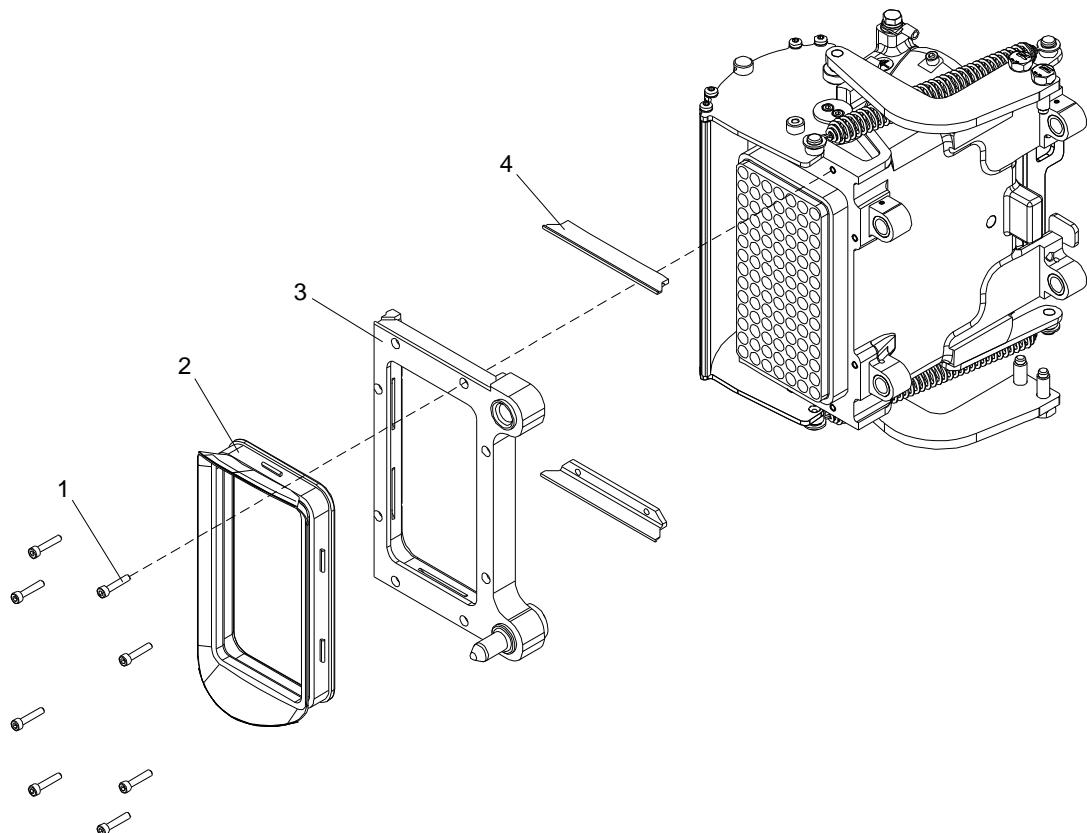

Figure 7-16: Replacement of Frame Including Guiding Pin and Guide Bushing
3. Remove the frame (3) and sealing strips (4) by removing screws (1). See Figure 7-16.
4. Remove the seal (2) from the frame (3).
2. Fit the seal (2) to the frame (3). See Figure 7-16.
3. Fit the sealing strips (4) and frame (2) and mount screws (1).